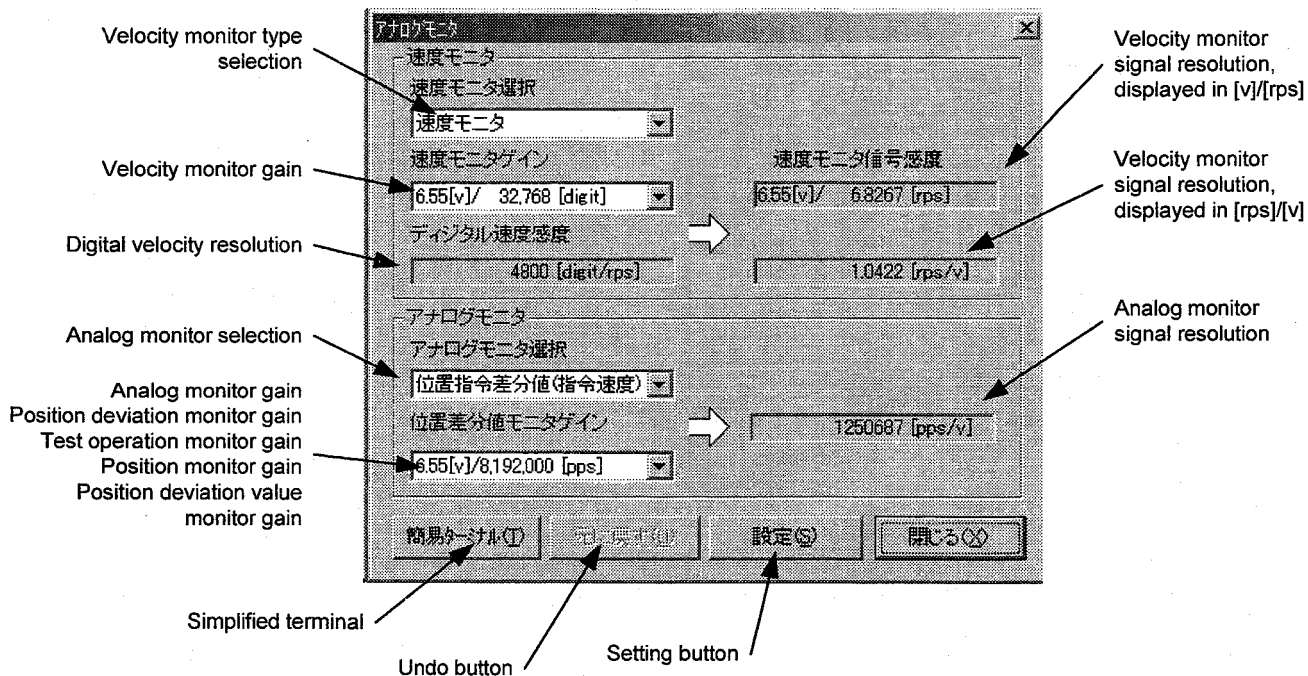

Figure 7.23 Analog Monitor Dialog Box
Click "Analog Monitor (A)" in the Waveform Measurement menu to display the Analog Monitor dialog box (see Figure 7.23).